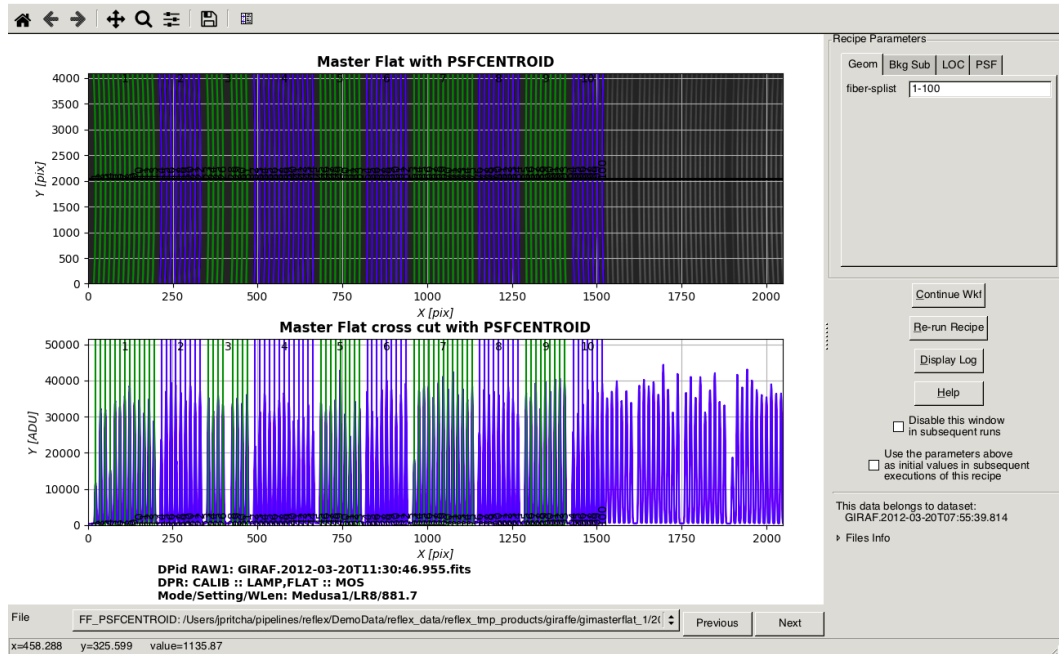

Figure 3.7: The MasterFlat Interactive GUI for the first dataset, after re-running the recipe with `fiber-splint` set to '1-100'.
- Adjust recipe parameters:** Let's begin with something simple, but clear. In the `fiber-splist` field, replace the text 'setup' with '1-100'. Then click the `Re-run Recipe` button. The GUI window will close and the workflow will re-run the MasterFlat recipe. Eventually the GUI window will re-open, but only the first 100 fibres will now be traced, see figure 3.7.